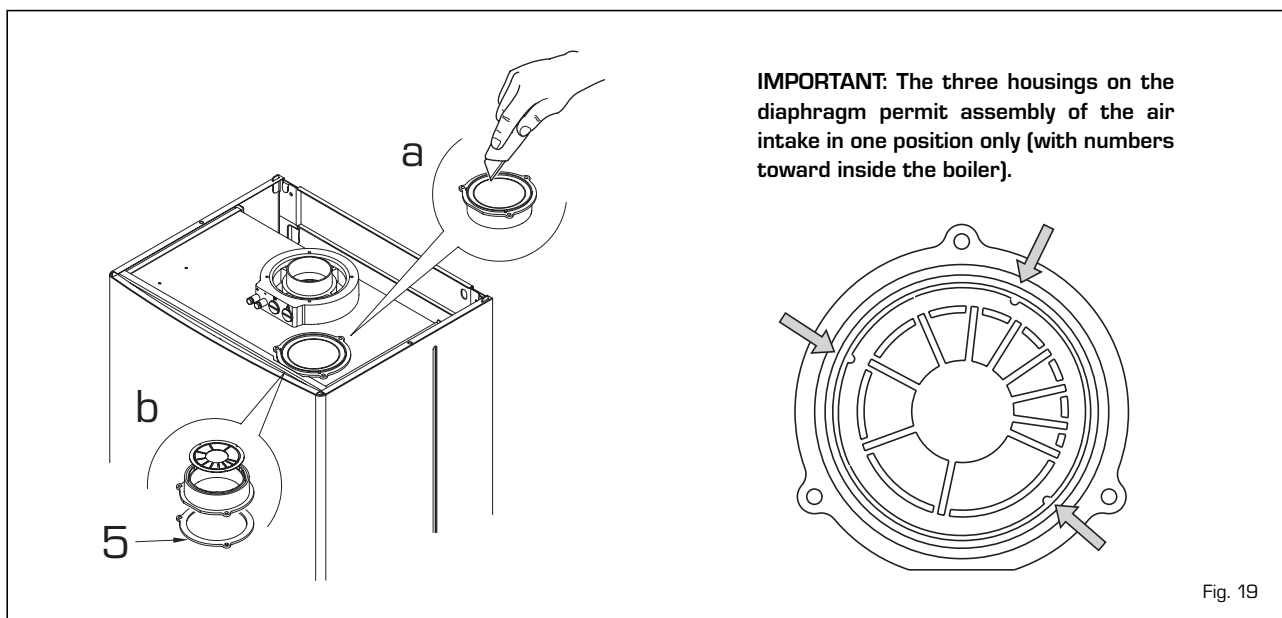

Fig. 19
3.5.2 Use of air intake (fig. 19)